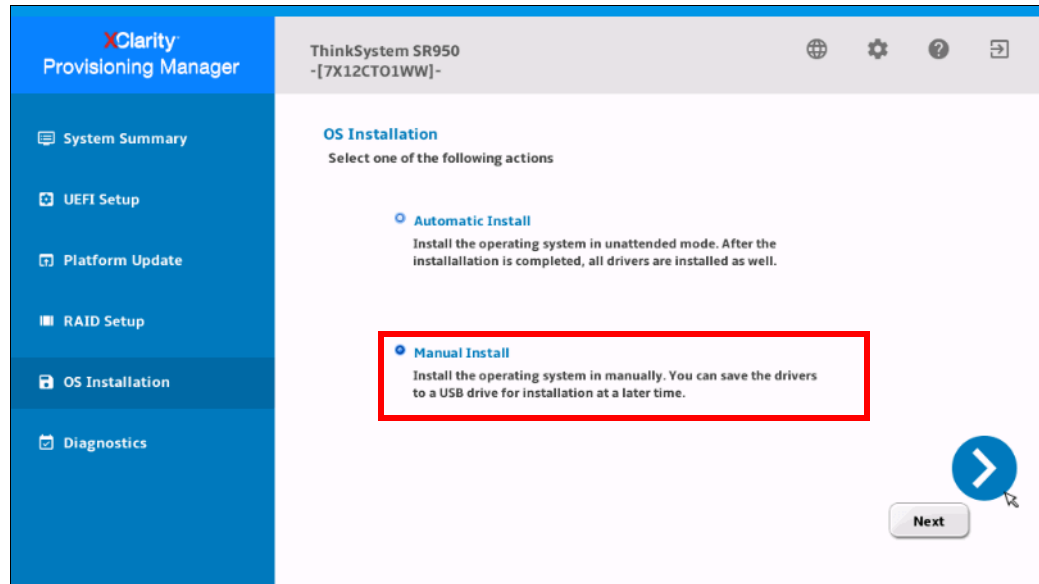

Figure 6-12 Manual OS installation selection with LXPM
2. Select **Manual Install** as shown in Figure 6-12 on page 191.